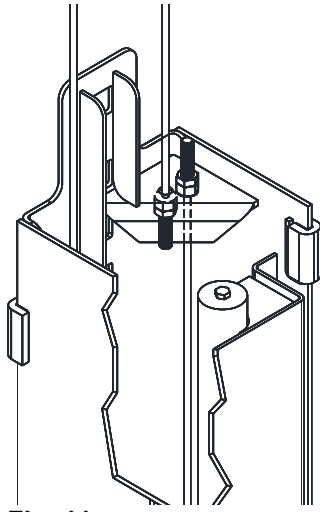

Fig. 11a – Cable Assembly
- 26) Mount synchronizer cables to carriages as shown in **Fig. 11a & 11b.**